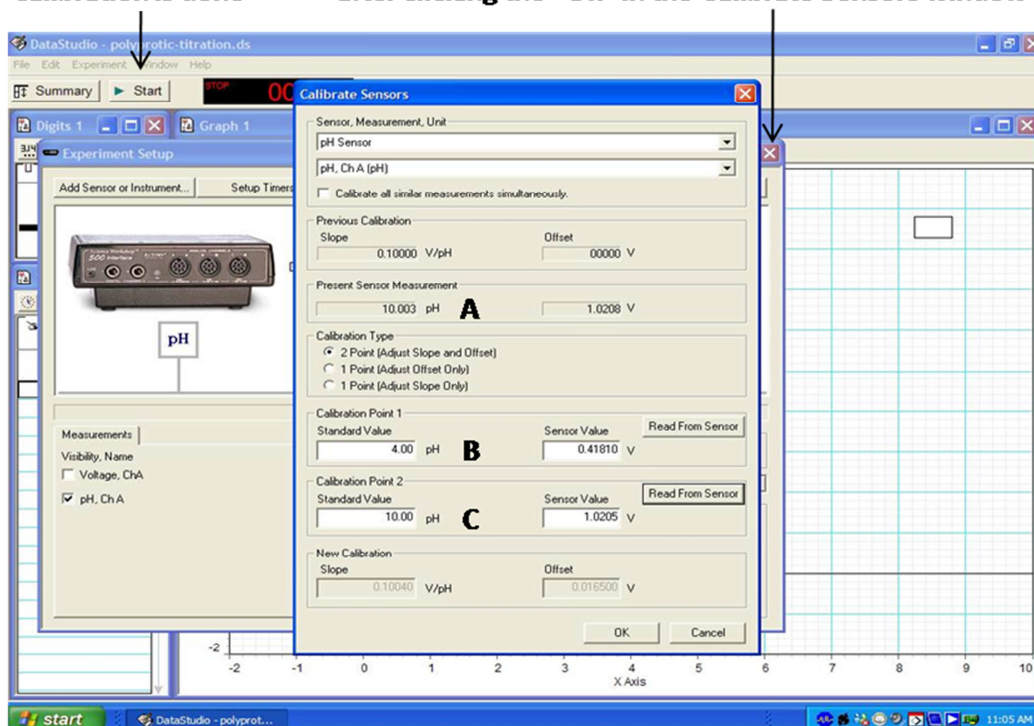

Figure 1: Calibration screen
- The computers should already be set up with Figure 1 on the screen. If there is a problem with the software during the experiment please consult an Instructor.
Calibration of pH electrode (see Figure 1)
4. The computer software should already be opened to the calibration screen shown in Figure 1 (see above and ask for assistance if it is not). The pH that the electrode is reading is displayed in box A. Enter "4.00" in box B and click on "Read from sensor". Make sure the value that appears in box A is approximately 4.0 and stable (not increasing or decreasing). This value will fluctuate, but not more than  $\pm 0.1$  pH units. If the value in box A is not close to 4.0 and stable, then click the "Read from sensor" button until it is.
6. Repeat the sequence in step 4 of this calibration procedure for the electrode in the pH 10 standard buffer except enter "10.00" in box C (see Figure 1) and click on the adjacent "Read from sensor" button". When this is complete click on the "Ok" in the Calibrate